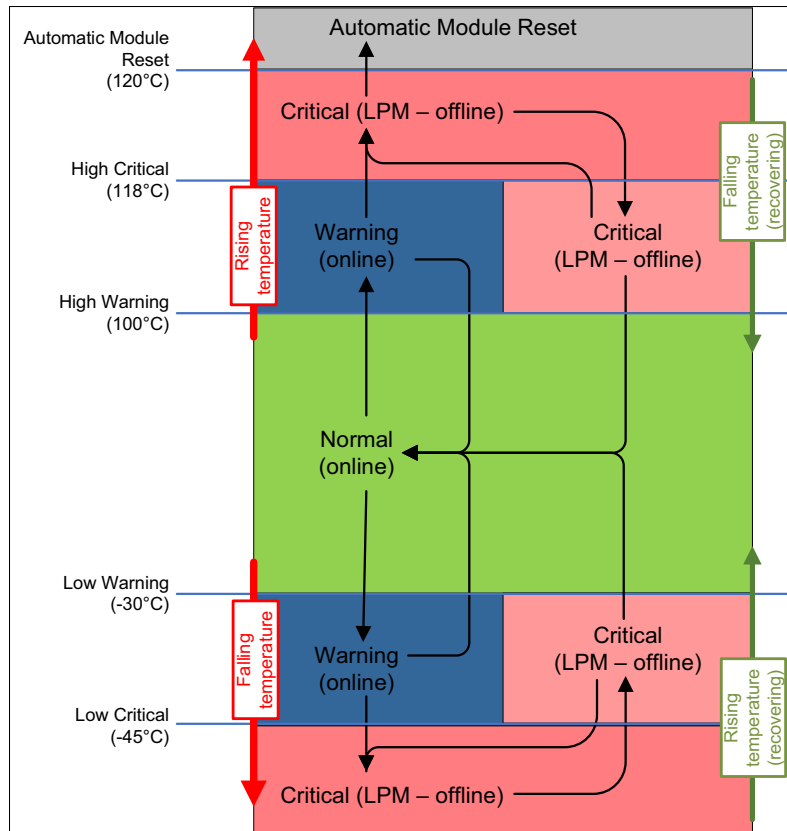

Figure 3: Low Power Mode Protection
As shown in Figure 3, the module automatically enters low power mode when the SDX55 chip's internal temperature (JT) exceeds a critical temperature threshold (i.e., the temperature rises to High Critical or drops to Low Critical). When the temperature re-enters the normal zone (i.e., the temperature drops below High Warning or rises above Low Warning), the module re-enters normal power mode.